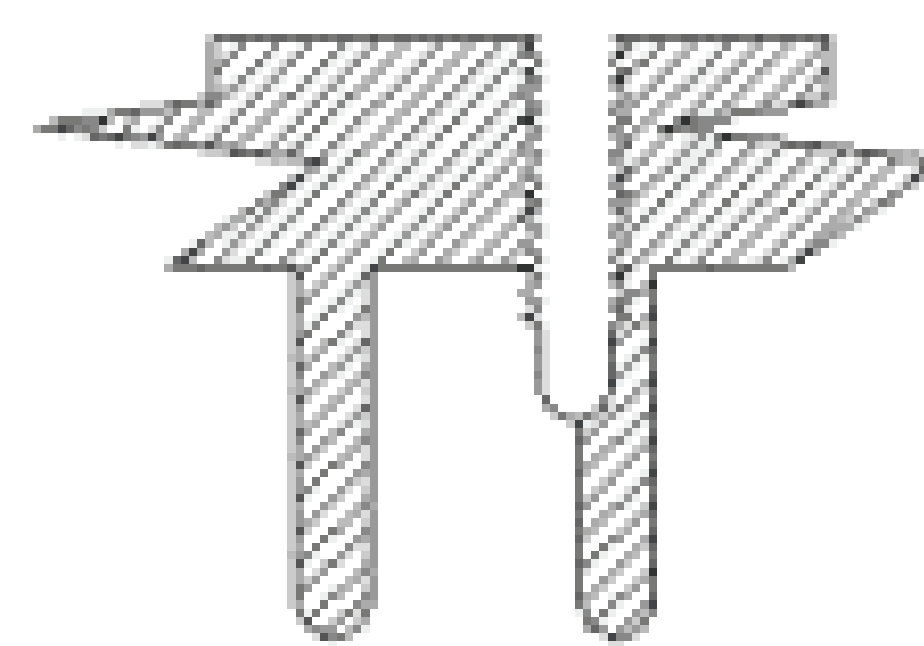

Fig .1
1. For small holes, those under .125" in diameter, depth must be considered due to the ability to acquire tooling capable of drilling beyond standard depths. Also drills that intersect fins off center run the risk of being out of round or breaking the tooling. (Fig. 1)